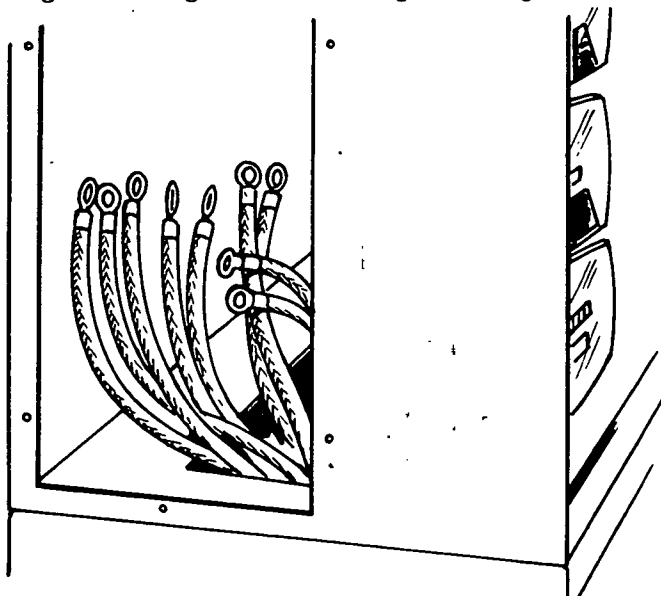

FIGURE 18. CONTROL BOX (SIDE PANEL REMOVED)
1. Remove either right, left or top panel from control box. See Figure 18.